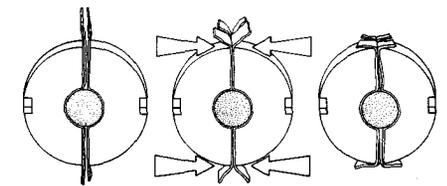

Figure 25 — Drawing End Plate Halves Together
9.07 Using a ratchet wrench draw the end plate halves completely together until the excess LOCK-Tape separates and lays back as illustrated in Figure 25.